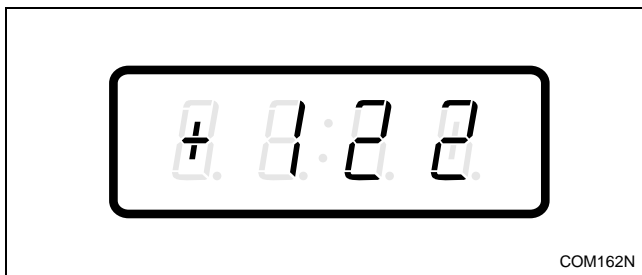

Figure 217
3. Press the DELICATES (+) or the COLD (-) keypad to scroll through the programmable options until “+122” appears in the VFD. Refer to *Figure 217*.